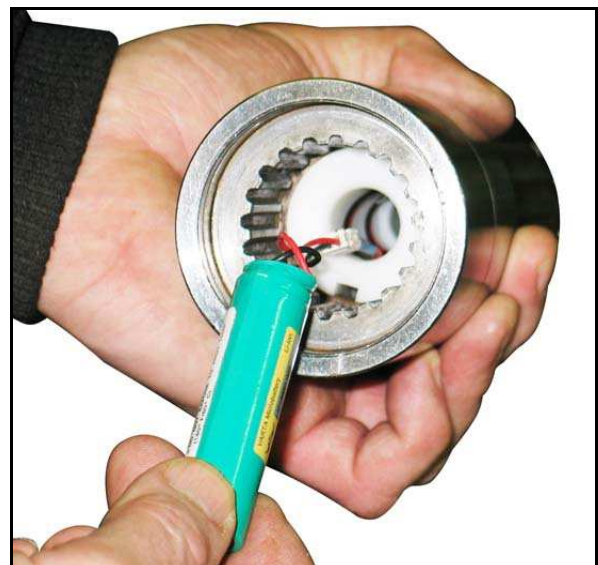

Fig. 64
5. Remove the battery from the battery case (Fig. 64).